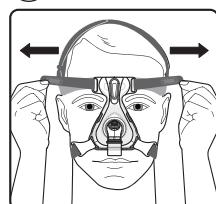

Figure 4
2. Evenly adjust the upper straps (Figure 4) to a comfortable position by using the tabs on both sides of the headgear. Do not pull the straps tight. The cushion should lightly touch the face.